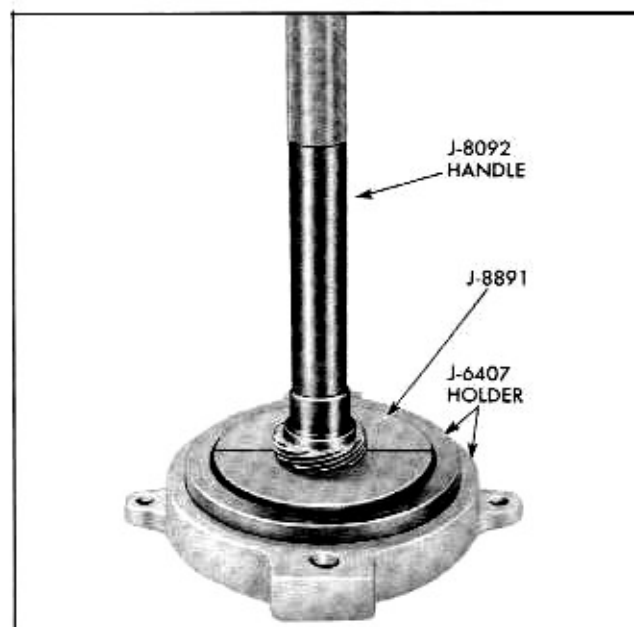

Fig. 4-32 Removing Speedometer Drive Gear
3. Press off speedometer gear using J-8891 held in J-6407 holder and J-8092 handle (Fig. 4-32).